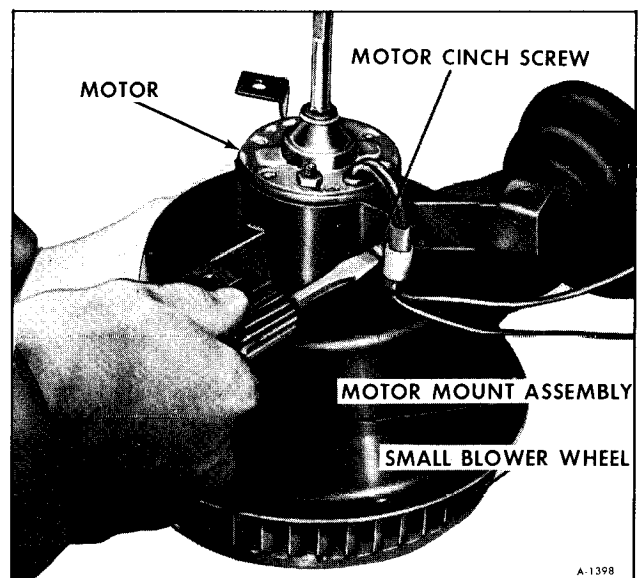

Figure 32-Removing Motor Cinch Screw
9. Loosen motor cinch screw and push motor and small blower wheel out of motor housing (See figure 32).
1. Position motor in motor mount assembly. Tighten cinch screw (figure 32).